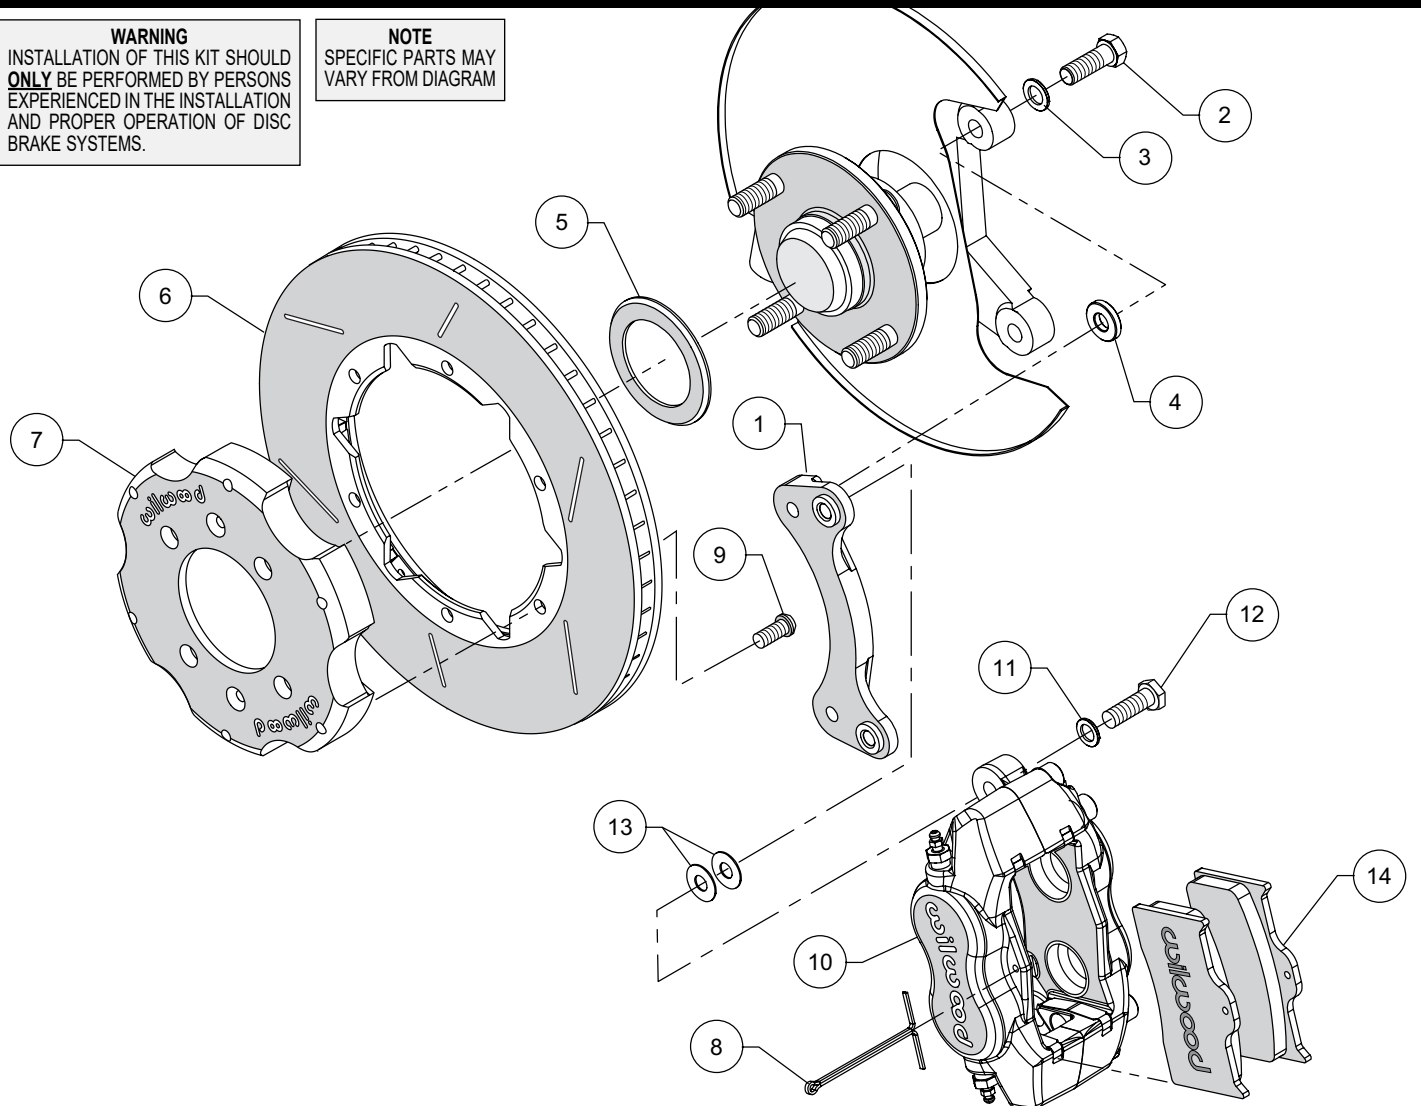

Figure 1. Typical Installation Configuration
NOTE: Numbers in parenthesis refer to the parts list and Figure 1 on the preceding pages.
- Orient the caliper mount bracket (1) as shown in Figure 1 and Photo 1, and install using bolts (2) and washers (3). Place a spacer (4) on each bolt between the bracket and caliper mounting bosses, Figure 1 and Photo 2. Ensure that the flanged heads of the clinch nuts in the bracket are facing outboard, Photo 1. Temporarily tighten the mounting bolts. **NOTE:** The bracket must fit squarely against the mount bosses on the upright. Inspect for interference from casting irregularities, machining ridges, burrs, etc. Remove bolts one at a time, apply red *Loctite*® 271 to the threads and torque to 30 ft-lb.
- Orient the rotor (6) and the hat (7) as shown in Figure 1 and Photo 3. Attach rotor to hat using bolts (9). Apply red *Loctite*® 271 to the bolt threads and torque to 25 ft-lbs using a criss-cross pattern.
- Slide the rotor registration adapter (5) onto the axle register on the axle hub with the smaller O.D. facing toward the rotor/hat (6/7), Photo 4. Slide the hat/rotor assembly onto the axle hub. **NOTE:** The hat must fit flush against the axle hub flange or excessive rotor run out may result. Install three lug nuts (finger tight) to keep the hat/rotor assembly in place while continuing with the installation.
- NOTE:** Please reference the caution statement at the beginning of the assembly instructions. Mount the caliper (10) onto the caliper mounting bracket (1) using bolts (12) and washers (11), as shown in Figure 1. Initially place two .035" thick shims (13) on each bolt between the caliper and the bracket, Photo 5. Temporarily tighten the mounting bolts and view the rotor (6) through the top opening of the caliper. The rotor should be centered in the caliper, Photo 6. If not, adjust by adding or subtracting shims between the bracket and the caliper. Always use the same amount of shims on each of the two mounting bolts. **NOTE:** The end of each bolt must be flush with or slightly protruding from the head of the clinch nut, as shown in Figure 3. If necessary place spare shims between washer (11) and caliper mounting ear to achieve the proper clinch nut engagement. Once the caliper alignment and clinch nut engagement are correct, remove the bolts one at a time, apply red *Loctite*® 271 to bolt threads, and torque to 40 ft-lb.
- Install the disc brake pads (14) into the caliper, with the friction material facing the rotor (6), Photo 7. Secure pads in place using cotter pin (8), Photo 8.